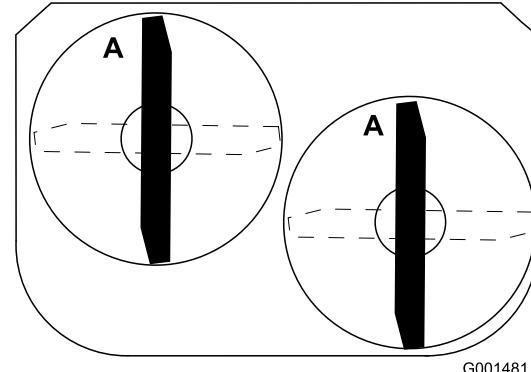

Figure 47
1. Rotate the blades until the ends face forward and backward (Figure 47).